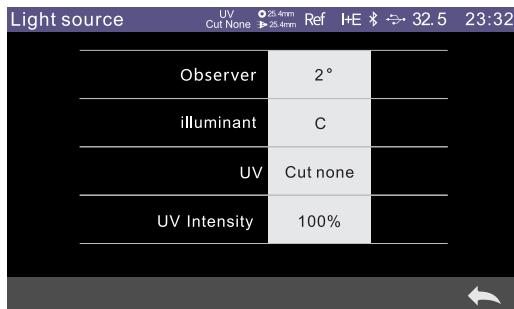

Figure 22 Light source settings
(8) Sample measurement mode: it is able to choose SCI, SCE, or I + E , If set only SCI or SCE , the switch cannot be performed
(9) Display mode: click **SCI** or **SCE** to switch the current mode of data display.Opacity measurement mode : click **黑衬底** or **白衬底** to swich for data display.
(10) Name of standard sample: showing the name of the current tested sample. Click to modify quickly.
(11) Switch to sample measurement: click  to enter the sample measurement interface.
(12) Data switching: click  switch to the previous set of data,click  switch to next set of data.
(13) Spectrum display : click  to check current spectrum data.
(14) Color space: by clicking the shortcut key, the current test data can be quickly switched between CIE Lab, CIE XYZ, CIE Yxy, CIE LCh and other color spaces.
(15) Camera locating: click  to view the position of the object to be measured at the reflective measurement aperture
(16) Wavelength switch button: Click  or  button to switch the wavelength of the light wave, the reflectance of the sample and the reflectance difference of the tested sample at the interval of 10nm, as shown in Figure 22.
Menu→Light source, Enter the interface as shown in Figure 22, click " ✓ " to confirmation.